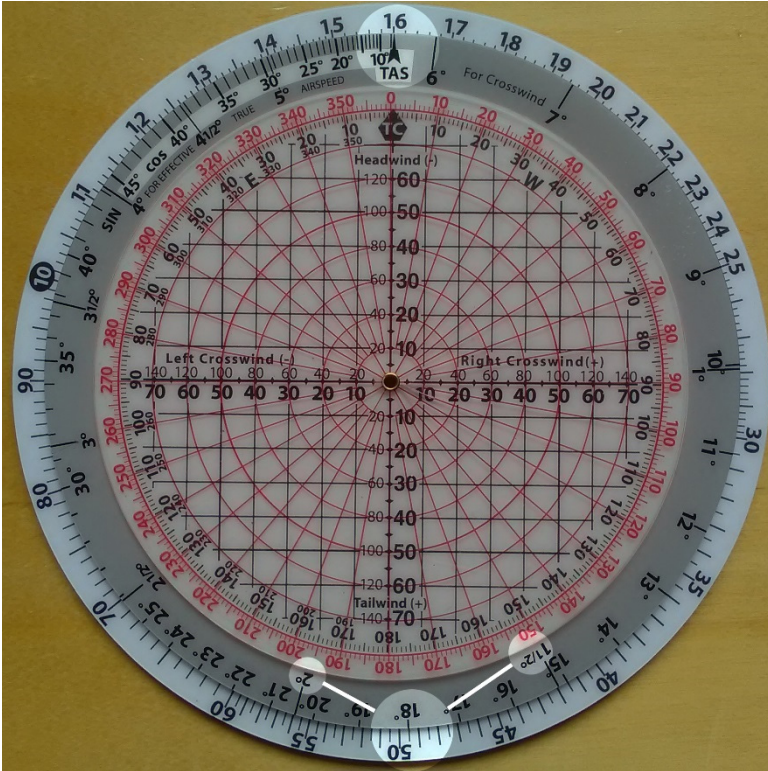

Figure 29.
- 3. Find the number of additional correction needed to reach your destination; place the miles to destination (160 depicted by 16 on the computer) opposite the TAS index (see Figure 29).*